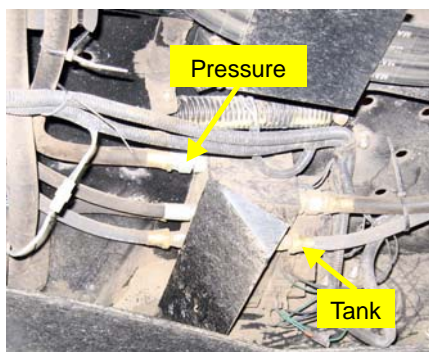

Figure 3a: Pressure and Tank Location
- a. The Automated Steering Block will connect pressure and tank to the hydraulic valve located inside the frame, behind the right drive wheel. (Figure 3a)